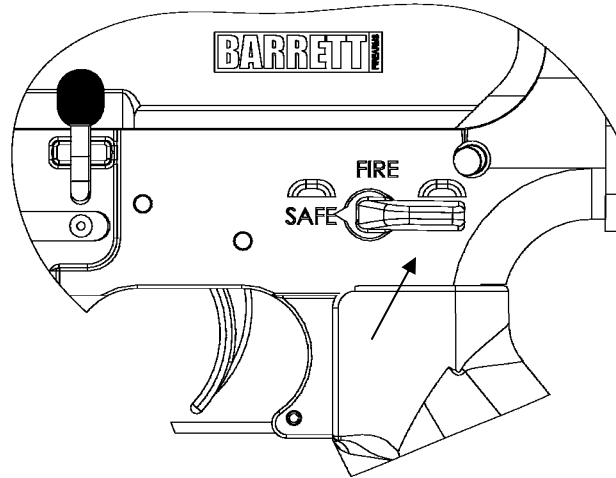

Figure 7.
1. If able, place the selector switch on SAFE. (Figure 7).